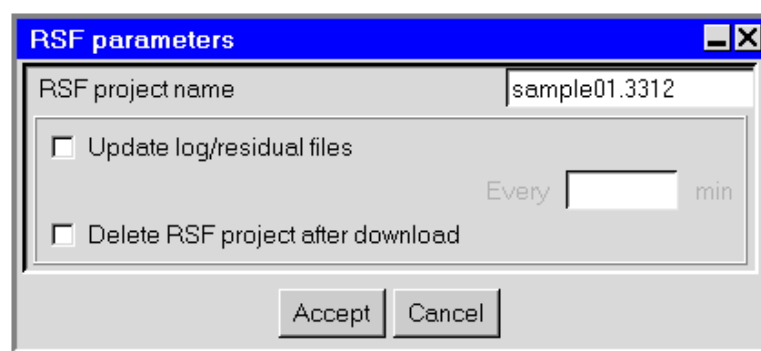

Figure 27.11.11: The RSF parameters Panel
- (b) In the **Advanced** tab of the **Solve** panel, select **Solve on RSF** from the list of **Submit to** options and click the **Edit parameters** button to open the RSF parameters panel (Figure 27.11.11).